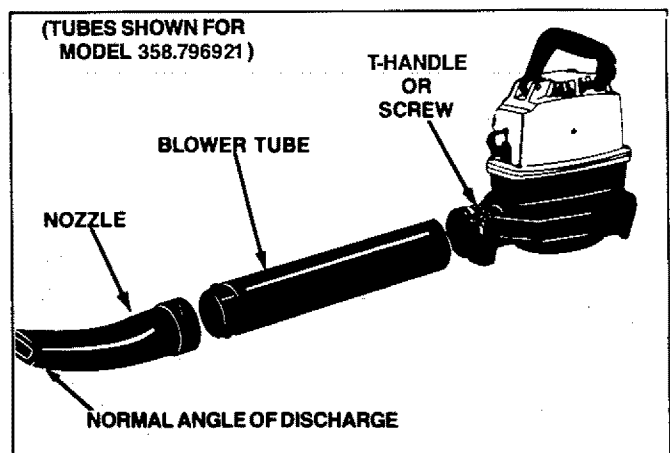

Figure 1
1. Locate the two projections on the side of the Blower Tube. Figure 1.
4. Slide the blower tube and nozzle assembly into the engine housing until it bottoms out (approximately 2-1/2"). Figure 1.
5. Align the blower tube assembly so the nozzle is pointing as shown in Figure 1.
6. Secure the blower tube assembly by tightening the T-handle or screw until hand-tight. Figure 1.